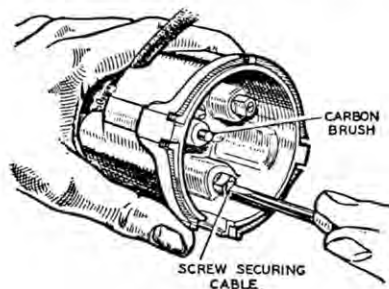

Fig. 1: Y-Type distributor cap with H.T. cables secured by grub screws from inside.
Fig. 1: Basic S.U. layout. A=Mounting Flange, B=Throttle Valve, C=Air Intake, D=Fuel Intake, E=Jet Head, F=Jet, G=Needle, H=Air Slide, J=Piston, K=Air Passage To Suction Chamber, L=Suction Chamber.
Figure 1 shows a very simplified version of the S.U. layout. The venturi is formed by the space between the bottom of the piston (H) and the bottom wall of the throttle bore.